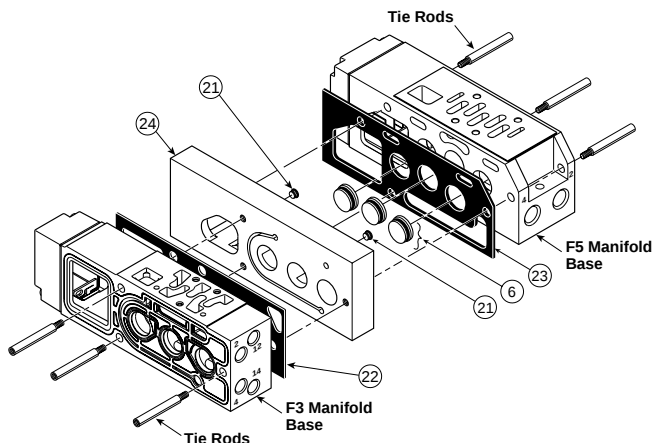
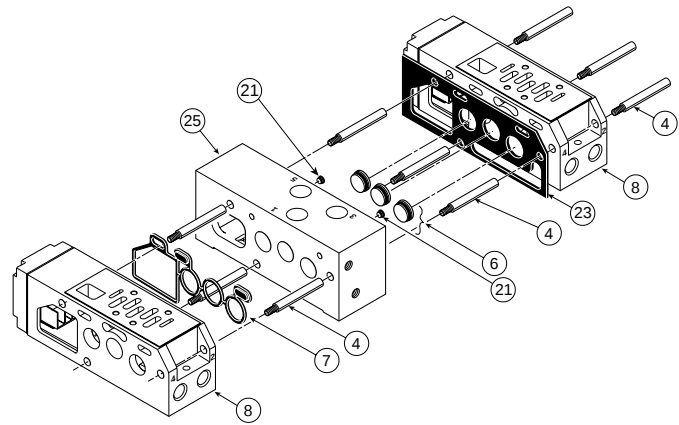
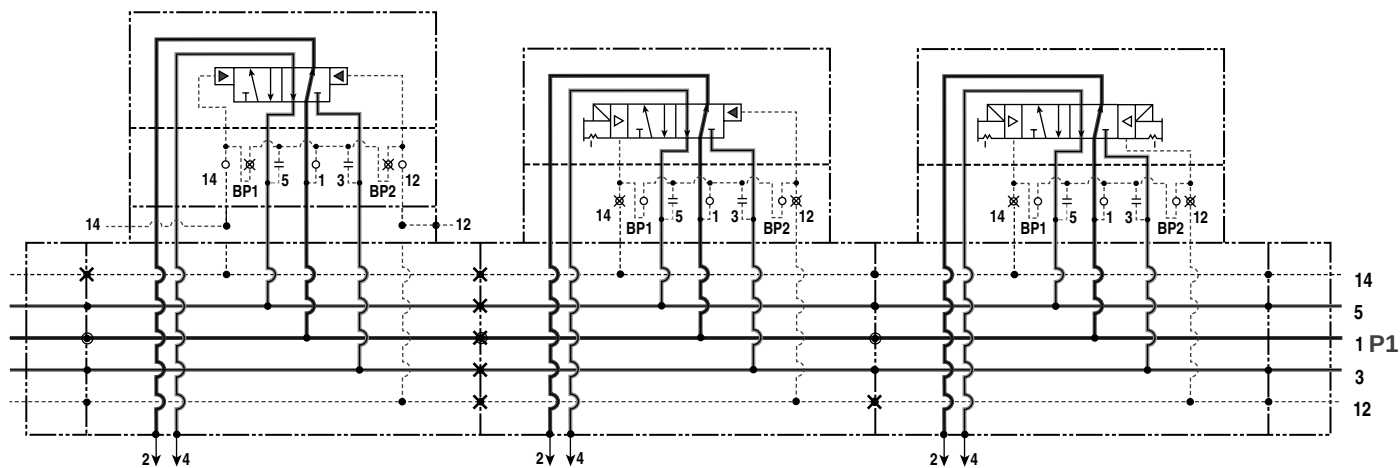
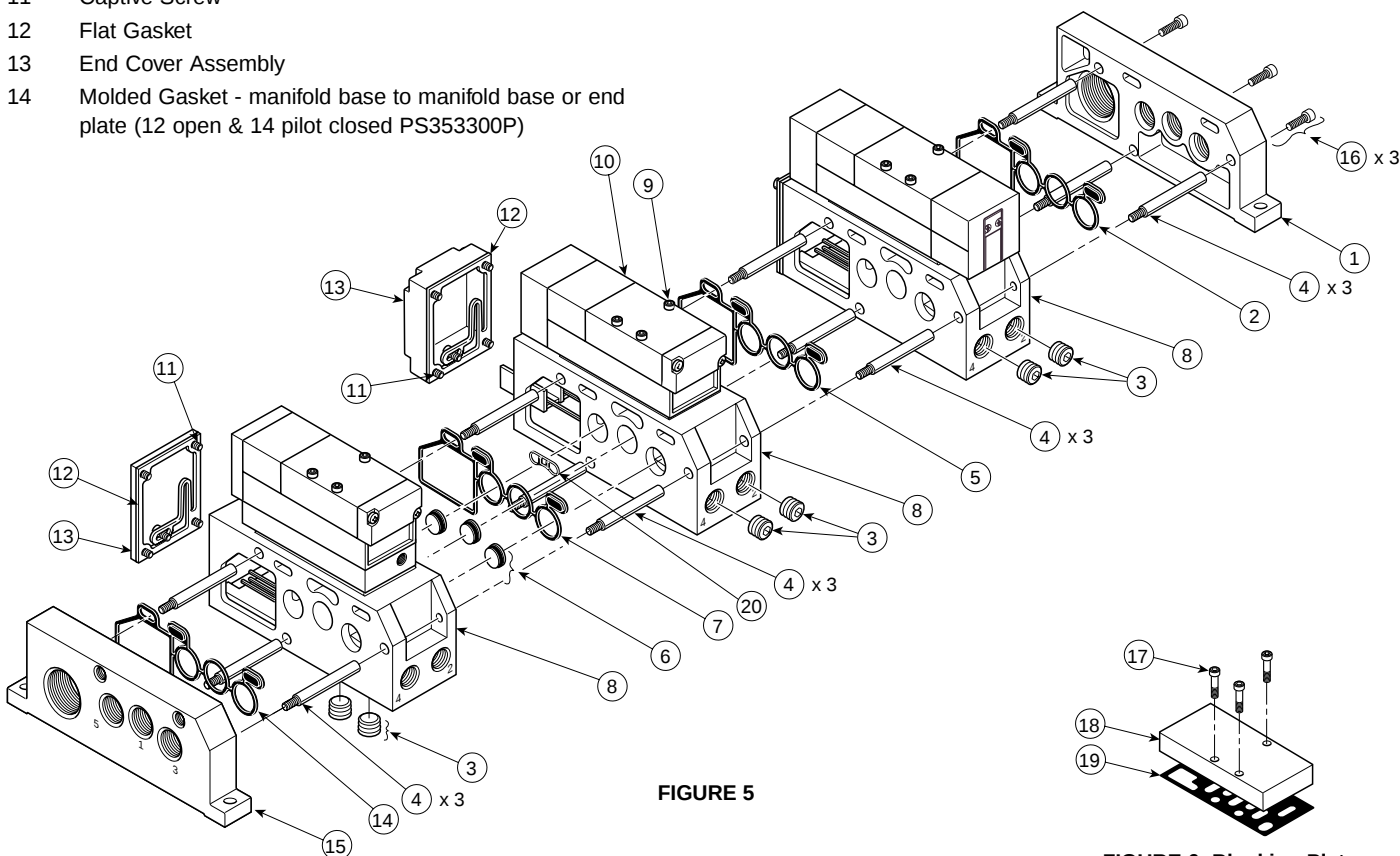

Figure 2 - Transition Plate
Figure 3 - Auxiliary Access Manifold
FIGURE 4
FIGURE 5
Valves may be arranged into a modular manifold assembly. This may have up to any number of stations providing that sufficient pressure and capacity is obtained in the circuits downstream of the valve outlets; sufficient pressure is available for shifting the valves; and enough exhaust capacity is available to minimize back-pressure effects. Means to increase inlet / exhaust capacity include supplying and exhausting air at both end plates (Figure 5, Items 1 & 15), with auxiliary access manifolds (Figure 3, Item 25) and by sequencing the valve operation to maximize time between different shifts.
Valve Mounting Procedure (See Figure 5)
Manifolds may be assembled to one another either before or after assembling valves to manifolds. If inlet or exhaust common galleries are to be isolated from neighboring manifolds, follow instructions given in the **Manifold Isolation Procedure** section before proceeding with this section. If remote air pilot valves are part of the manifold assembly, be sure to isolate their pilot signals so that they do not supply undesirable pressure to other valves in the manifold assembly, follow instructions given in the **External Pilot Connections** section. **Transition Plate** (Figure 2, Item 24) and **Auxiliary Access Manifold** (Figure 3, Item 25) installation is covered below. Numbers shown in parentheses refer to items in Figure 2, 3 & 5.
4. Apply a light coating of grease to appropriate molded gasket (2, 5, 7 or 14) and place it in the groove on right side of manifold (8) or apply a light coating of grease to flat gaskets (22 and/or 23) and place in appropriate locations as shown in Figures 2 and/or 3.
7. Assemble the last gasket to the manifold, mount the right end plate (1). Start the screws into the last tie rods but do not tighten at this stage.
9. If valve assembly (10) or top blanking plate (18) were not attached to manifold (8), mount them onto manifolds per **Valve or Station Blanking Plate Mounting Procedures**.
Inlet & exhaust galleries, and pilot supply galleries may be isolated from those in adjacent manifolds through the use of isolation plugs. Note: air piloted valves, whether single or double, will need to be isolated at 14 and/or 12 galleries to prevent improper air pressure signals reaching adjacent valves. Figure 4 schematically indicates where to place plugs (shown as "X" marks) for typical air piloted valves. Figure 5 pictorially indicates assembly locations of main gallery plugs (6), which are assembled on the right side of the bases under the gasket. The pilot galleries are plugged using the appropriate gasket (5, 7, 14) which is assembled on the right side of the bases. Figures 2 & 3 pictorially indicate assembly locations of main gallery plugs (6) and pilot gallery plugs (21) which are assembled on the right side of the transition plate (24) or the auxiliary access manifold (25).
- a. MANIFOLD (8) AUXILIARY ACCESS MANIFOLD (25) AND TRANSITION PLATE (24) MAIN GALLERY ISOLATION - As displayed in Figures 3, 4 and 5, use the large plugs (6) from the service kit to isolate manifold main gallery(s). The middle
- b. **AUXILIARY ACCESS MANIFOLD (25) AND TRANSITION PLATE (24) PILOT GALLERY ISOLATION** - As displayed in Figures 3 and 4, use pilot gallery plugs (21) from the service kit, to isolate the auxiliary access manifold (25) from the manifold pilot galleries and to isolate the pilot galleries when using the F3 to F5 transition plate.
4. Apply a light coating of grease to appropriate gasket (2, 5, 7, or 14) as shown in Figure 5 and assemble in manifold groove or apply a light coating of grease to F3 (22) and/or F5 (23) flat gasket(s) and place in appropriate locations as shown in Figures 2 and 3.
Gallery port #1 of the supply manifold must be isolated between the two stations per the manifold isolation procedures section. Further, the auxiliary seal (eyebrow shaped gasket, Item 20 in Figure 5) must be installed in mating gasket tracks, between and on both sides, of the supply and outlet manifolds. For every pair of these manifolds, there are three (3) places where these gaskets must be fitted.
4. Instructions for increasing inlet and exhaust air capability by installing an **auxiliary access manifold**. Use the **Assembly Procedures for Manifolds** to install this accessory, keeping in mind that this manifold has a supply source for the pilot supply/signal galleries. **Manifold Instruction Procedures** and design constraints for special functions (**auxiliary inlet and outlet**) still apply. Manifold assembly hardware should be tightened to the values mentioned in this (V-433CP) instruction sheet. See Figure 3 for a pictorial representation.
1. The bottom surface of the sandwich block has several holes which receive the small plugs. This is accessed by loosening the three main body mounting screws (item A) with a 4 mm hex wrench and removing the valve from its base. These holes have identification alongside as shown in Figure 4 and plugs must be located in the holes as described in Table 1. (See the two identification methods located in Table 1.)